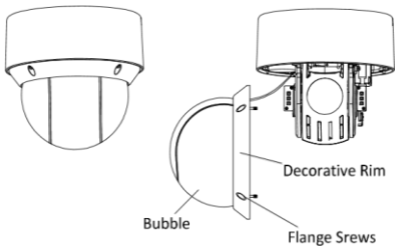

Figure 2-2 Remove the Bubble and the Decorative Rim
2. Loosen four flange screws with a screwdriver. Remove the bubble and the decorative rim as shown in Figure 2-2.